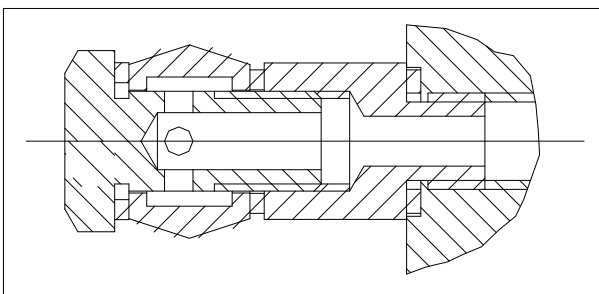

Fig. 37
- ◆ Connect the hydraulic unit to the circuit crossing with a flexible pipe. (Fig. 37)